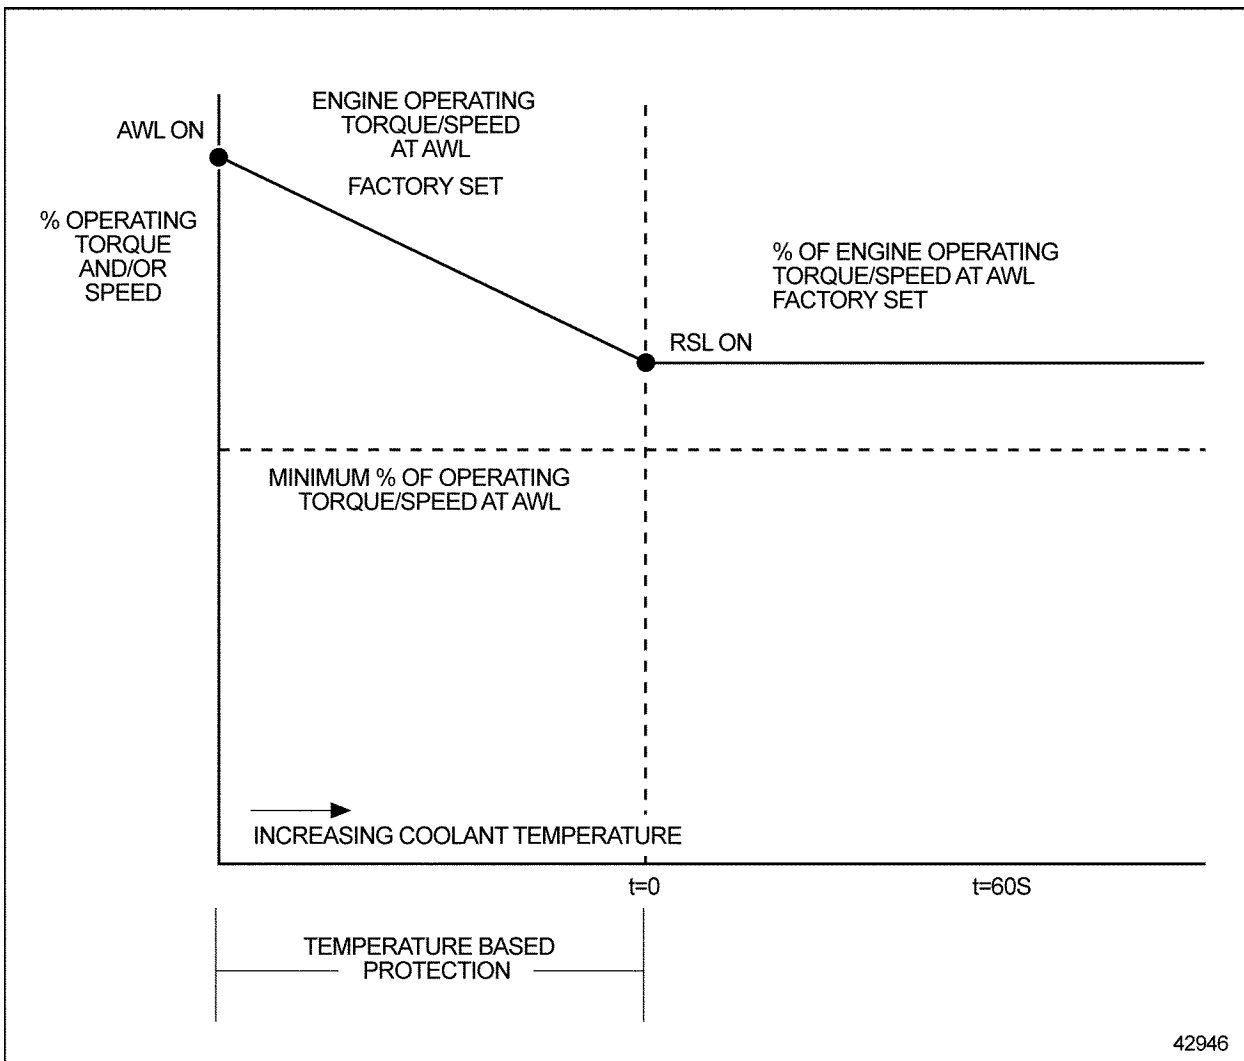

Figure 5-3 Engine Overtemperature Protection and Warning Only
- Warning only (see Figure 5-3)